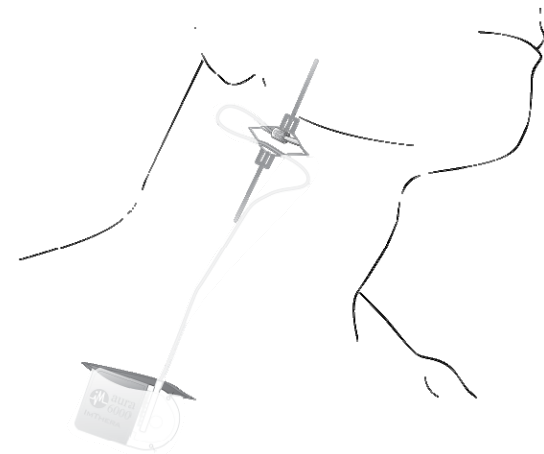

Figure 5
13. Gently pull the lead back toward the electrode cuff and create an S-shaped section of lead near the neck incision as shown in Figure 5.
8. Place the IPG into the IPG pocket (metal portion first) with the ImThera logo facing outward as shown in Figure 5. Ensure that the lead is not sharply bent.